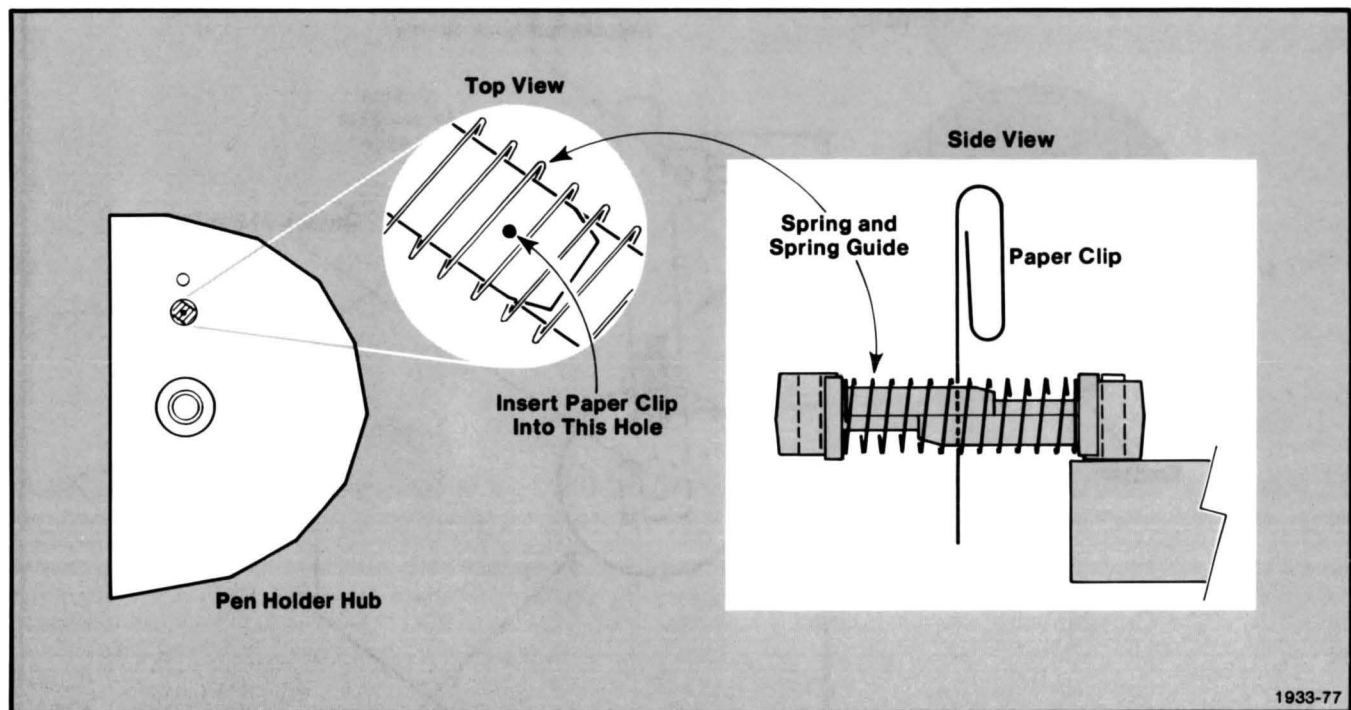

Figure 3-17. Pen Holder Hub Spring and Spring Guide Details.
5. **Refer** to Figure 3-17 and insert a .035-inch wire (a straightened paper clip, for example) through a hole in the pen holder hub and into a small hole through the spring (below) and its spring guide. Make sure that the wire goes clear through the spring and spring guide. It may take some turning of the rotary pen turret knob to align the top and bottom holes of the spring guide and to allow the wire to pass through. The wire holds the spring in a position to aid in its installation later. Then, remove the rotary pen turret knob.